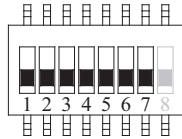
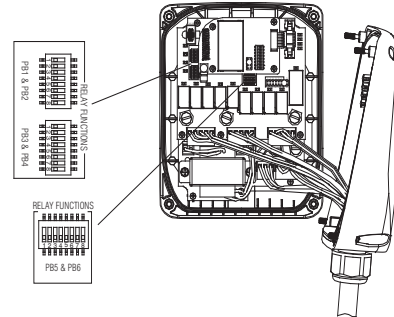

Fig. 13
Fig. 14
Interlocked means the two adjacent pushbuttons cannot be activated simultaneously as they will cancel each other out when pressed. Interlocked settings usually apply to a crane's forward and reverse motions. Each dipswitch on the decoder module corresponds to one (1) motion or two (2) adjacent pushbuttons (*see Fig. 13 and Fig. 14*). Only the first seven (7) dipswitch positions are used (counting from left to right). The 8th dipswitch position (far right) is not used.